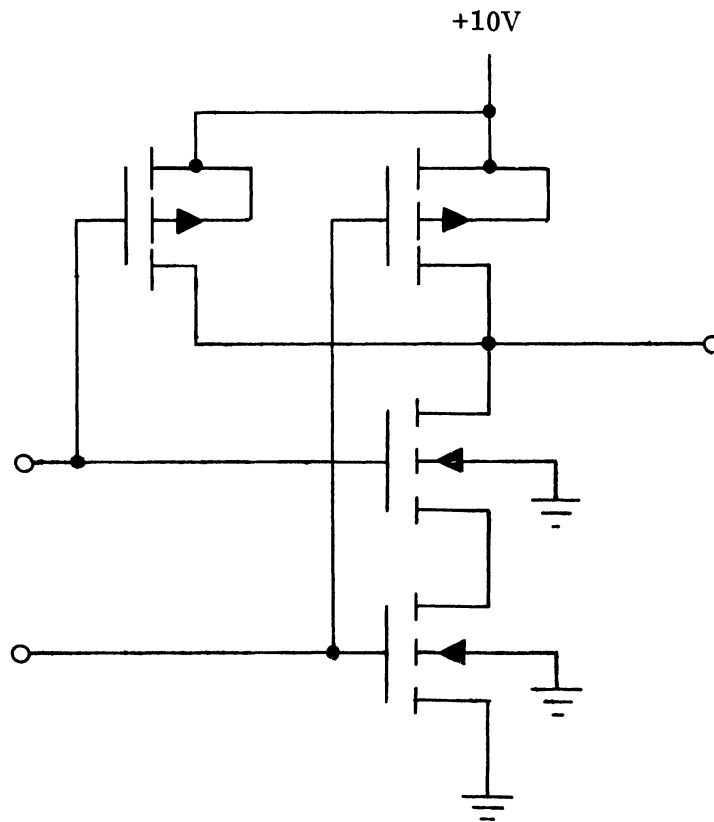

FIGURE 5
12. The circuit shown in figure 5 is _____ .